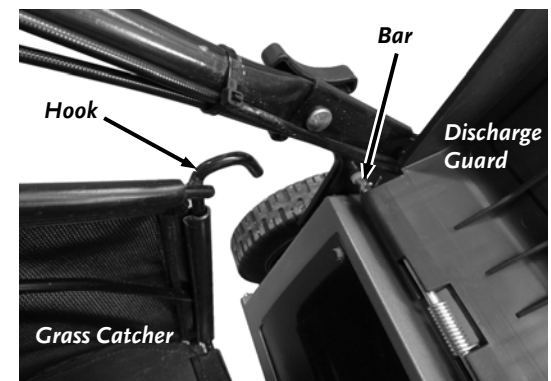

Figure 6
1. Hold the Discharge Guard in the upright position (**Figure 6**).